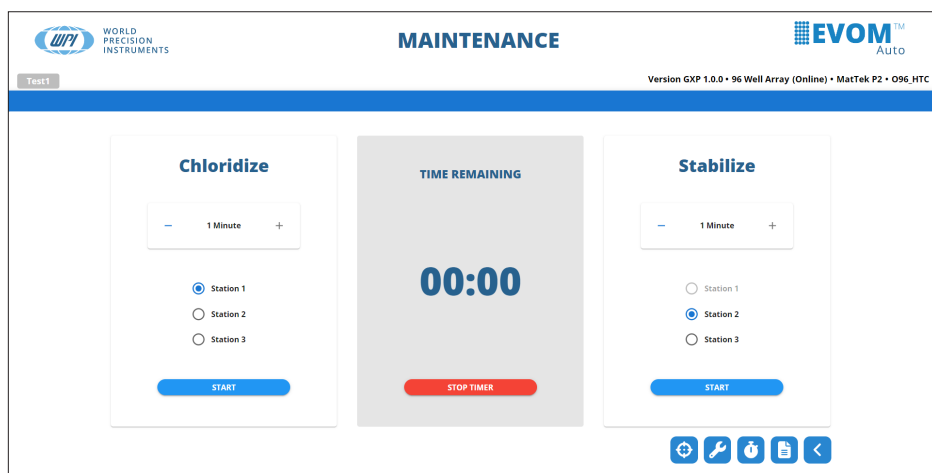

Fig. 105—The Maintenance window.
1. Select *Maintenance* on the main menu. The *Maintenance* window appears (Fig. 105).